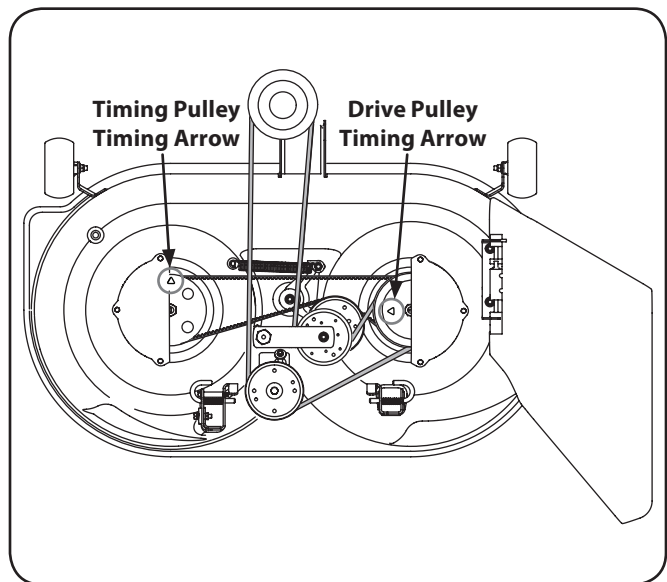
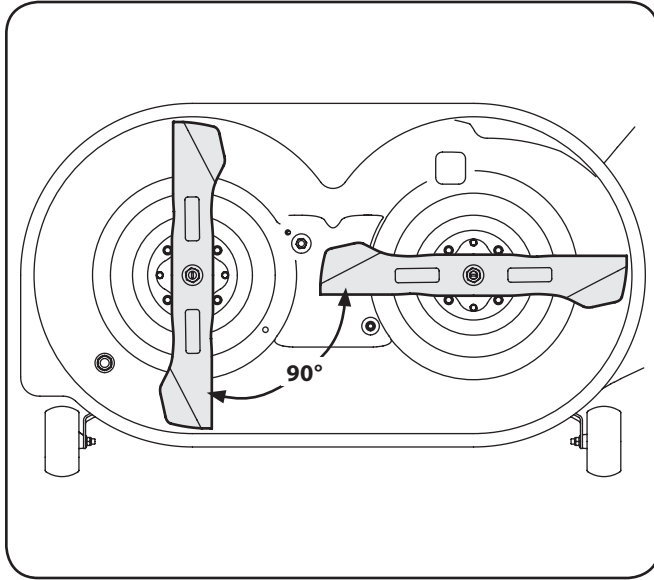

Figure 7-5
Figure 7-6
8. Note the arrows on the top of the timing pulley on the LH spindle and on the drive pulley of the RH spindle assembly. These timing arrows **MUST** be positioned 90° from each other as shown in Fig. 7-5.
9. Rotate the RH spindle assembly to position the drive pulley timing arrow as shown in Fig. 7-5. Then without moving the RH drive pulley, pull the timing belt tight against the RH timing pulley, above the timing belt idler pulley, and over to the LH timing pulley.
10. Turn the LH timing pulley so that its timing arrow is 90° from the RH spindle assembly timing arrow. Refer to Fig. 7-5.
12. After making sure the spring is hooked onto the idler bracket and screw, pivot the timing idler bracket/idler pulley against the spring tension just far enough to allow you to lower the backside of the timing belt onto the idler pulley. See Fig. 7-5.
13. Re-check the timing arrows on the two pulleys. If they have moved from the 90° position when tensioning the timing belt, pivot the idler pulley to relieve tension on the belt and re-position the pulleys. The timing arrows **MUST** be positioned 90° from each other as shown in Fig. 7-5.
15. If the timing belt was installed correctly and the timing arrows were positioned as shown in Fig. 7-5, the cutting blades should be in the position shown in Fig. 7-6.